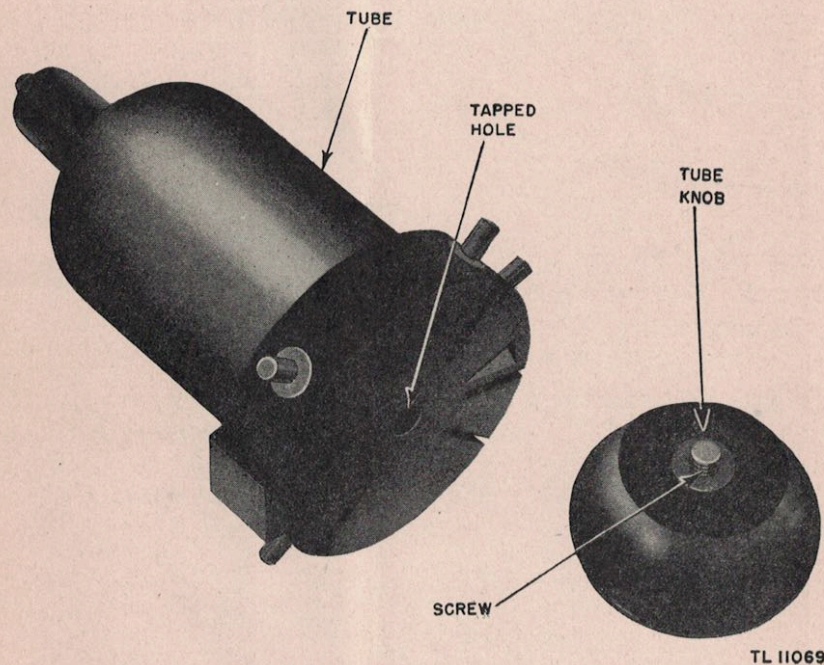

Figure 7. German radio tube type RV12P2000 used in German radio set FuspRech.a.
h. To remove any tube not having a knob, unscrew a knob from another tube and screw it into the hole in the base of the tube to be removed (fig. 7). Be sure that no knobs are left on any of the tubes on the top of the chassis when the chassis is replaced in its case.